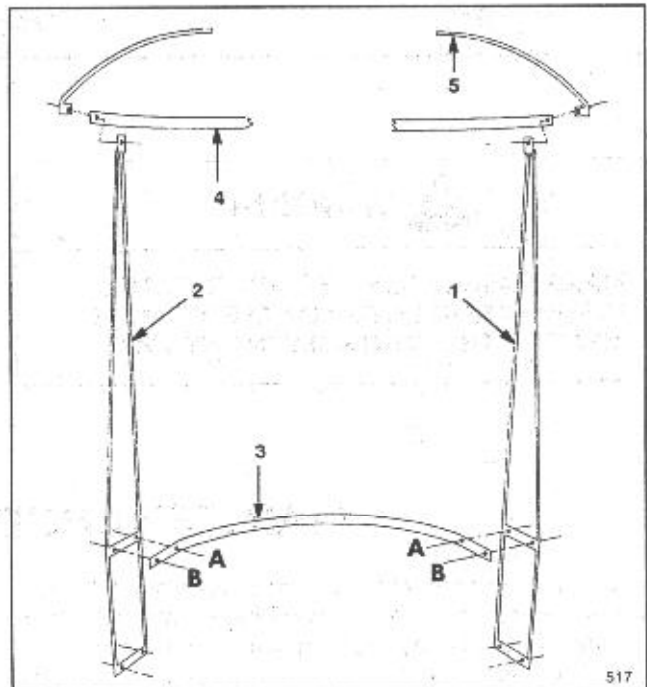

Figure 2
2. Determine the right and left hand frames by making sure the straight frame rods are on the interior of the windshield (Fig. 2). The frame rod with a bend in it should be positioned to the outside of the windshield.
3. Using two 1/4" x 1" bolts and two 1/4" locknuts, assemble the right and left frames to the bottom bow at REFERENCE "A" as shown in Figure 2. Position locknut on the outside of the frame.
4. Insert two 1/4" x 5/8" bolts and two 1/4" locknuts in the holes at REFERENCE "B" as shown in Figure 2.
6. Insert a 1/2" x 5/8" bolt outwards through the top of the right and left frame, the top bow and then through the top frame (Fig. 2). Add two 1/4" locknuts and tighten securely.